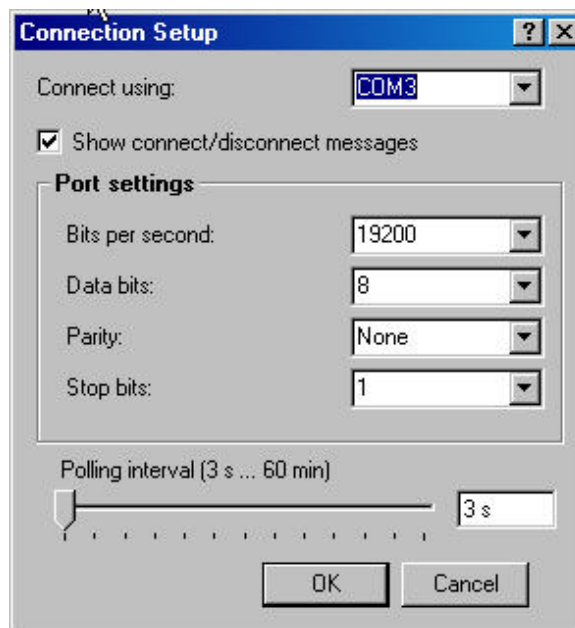

FIGURE A-1. Connection Setup screen
4. Enter the settings for each of the Connection Setup Screen’s parameters (see Figure A-1). The default settings are: